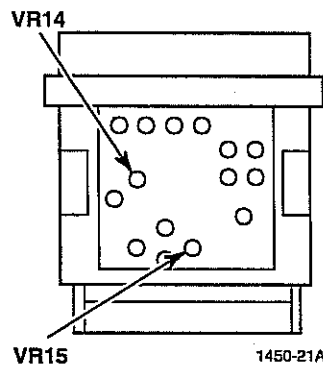

Figure 3-16.
- b. Adjust VR14 (Figure 3-16) for $1.50 \text{ VDC} \pm 0.05 \text{ VDC}$.
- b. Adjust VR15 (Figure 3-16) for $1.50 \text{ VDC} \pm 0.05 \text{ VDC}$.